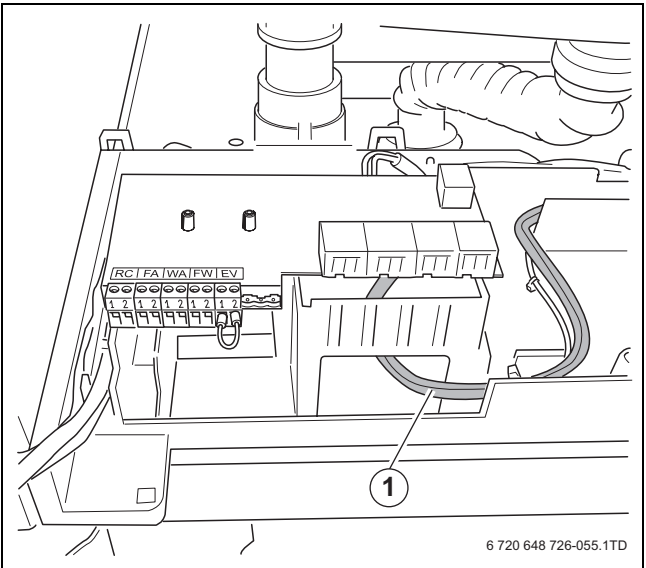

Fig. 55 Route the 230 VAC pump cable
- Unwind the 230 VAC cable [1] and route it out of the boiler (→ fig. 55).